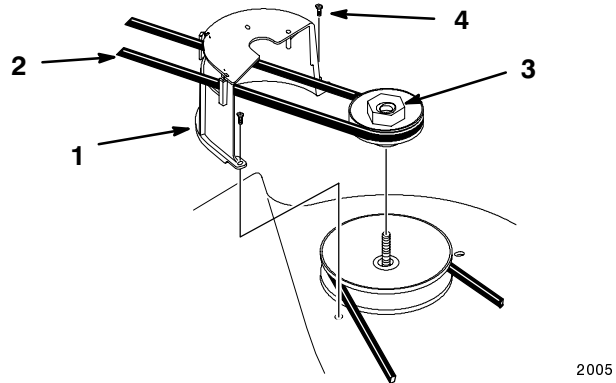

Figure 29
1. Remove the mower belt cover from the right side pulley (Fig. 29). Save mounting hardware.
2. Unhook blower belt from blower pulley and slide the belt out of opening in belt cover (Fig. 29).